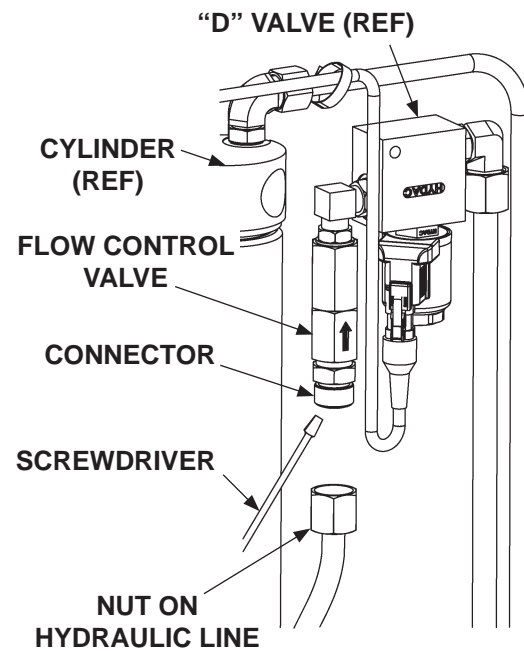

FIG. 67-1
4. Lower the platform to the ground and remove the flow control valve (**FIG. 67-1**) at the top of each column. Check if flow control valves are contaminated. Try to move plunger with a small screwdriver. If necessary, clean the valve (**FIG. 67-1**). Reinstall clean flow control valve or replace if necessary.